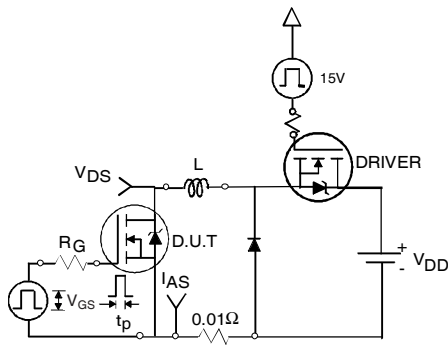

Fig 12a. Unclamped Inductive Test Circuit
- ③ Pulse width $\leq 1.0ms$; duty cycle $\leq 2\%$.
- ④ $C_{oss \text{ eff.}}$ is a fixed capacitance that gives the same charging time as C_{oss} while V_{DS} is rising from 0 to 80% V_{DSS} .
- ⑤ Limited by T_{Jmax} , see Fig.12a, 12b, 15, 16 for typical repetitive avalanche performance.
- ⑥ This value determined from sample failure population. 100% tested to this value in production.
3. Equation below based on circuit and waveforms shown in Figures 12a, 12b.